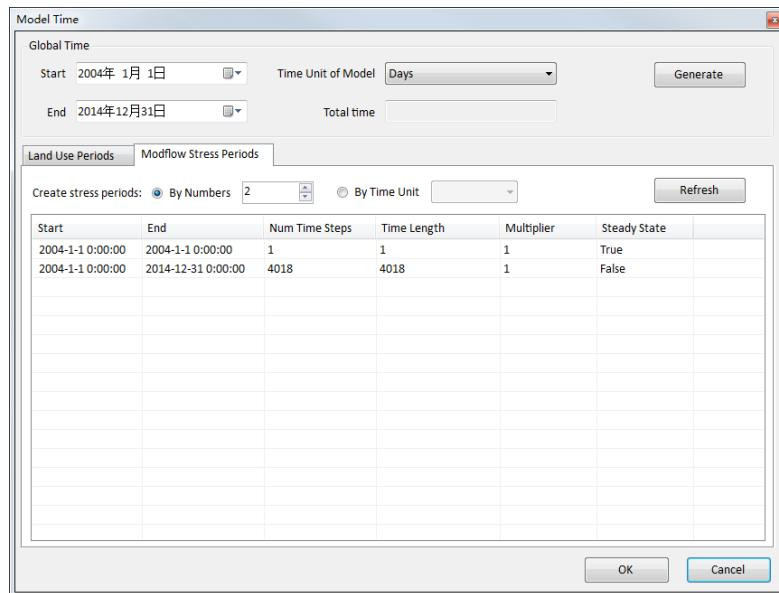

Figure 4-10. The generated global Model Time and Modflow stress periods.
2. Click the button Generate at the upper-right, then Modflow Stress Periods will automatically generated, as shown in Figure 4-10.